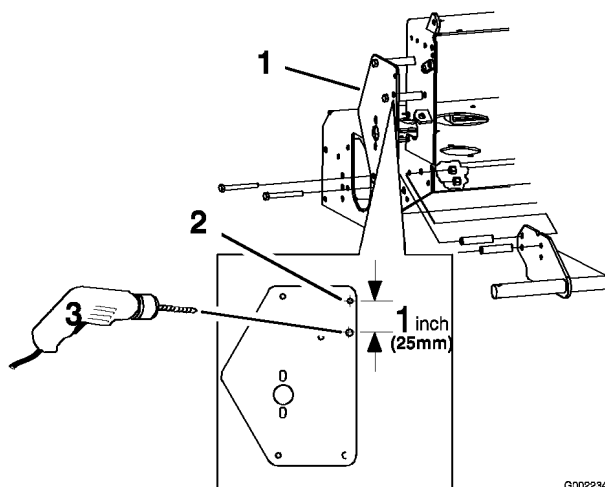

Figure 8
1. Inspect the linkage guard and determine if there is an extra hole in the guard below the upper rear hole. Refer to Figure 8 for the correct location. If there is no existing hole, perform items 2 and 3 for drilling a hole.
3. Mark the location and drill a 11/32 inch hole into the linkage guard (Figure 8).